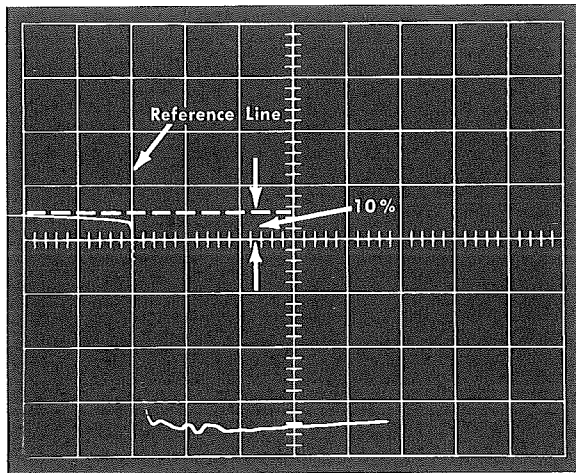

Fig. 3-11. Establishing the turn-on reference line from the 10% level of the switching-pulse leading edge.
3. Readjust oscilloscope sweep rate to display the switching-pulse leading edge as shown in Fig. 3-11. Horizontally position the display so the 10% level coincides with a convenient vertical graticule line. This establishes the turn-on reference line; therefore, do not adjust horizontal position control during remainder of this procedure. (For dual-trace test systems, use the signal from the Type 290 50 Ω INPUT MONITOR connector to obtain the display.)